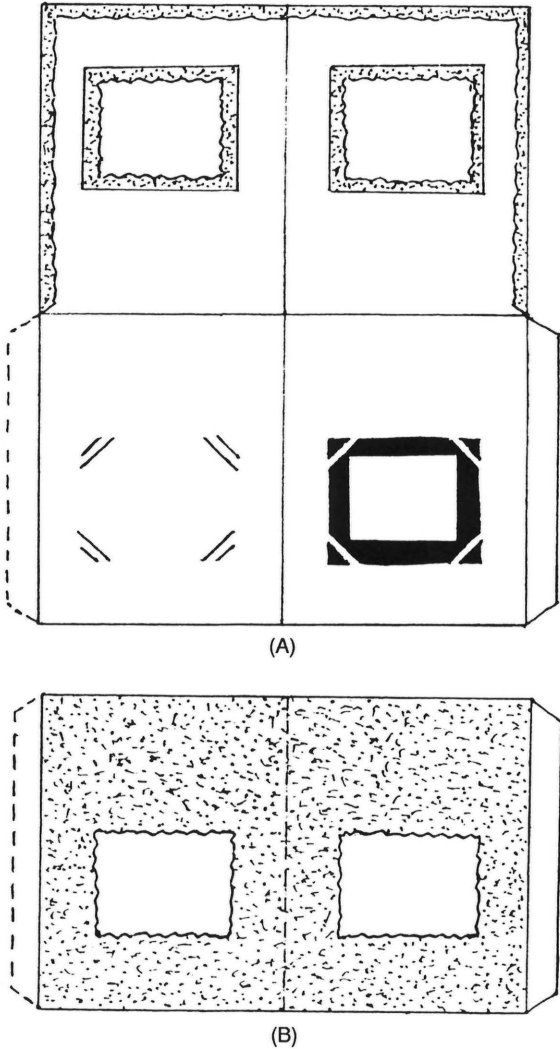

Figure 1 Double page mat for accordion book. (A) open; (B) closed.
The structural units of this form are the one-sided double page mats, hinged together side by side (Figure 1). Each of these units includes its own integral hinging flap, cut and scored, which is then adhered to the neighboring unit. These same flaps also eventually provide the attachment to the endboards that complete the binding and enclose the entire accordion.
1. In writing this article, I am grateful for Peter's help in supplying some additional materials that go beyond his Seminar presentation. Also, Figures 1 and 3 accompanying this article are adaptations of Peter's sketches, somewhat revised, and labeled to coordinate with the explanations.